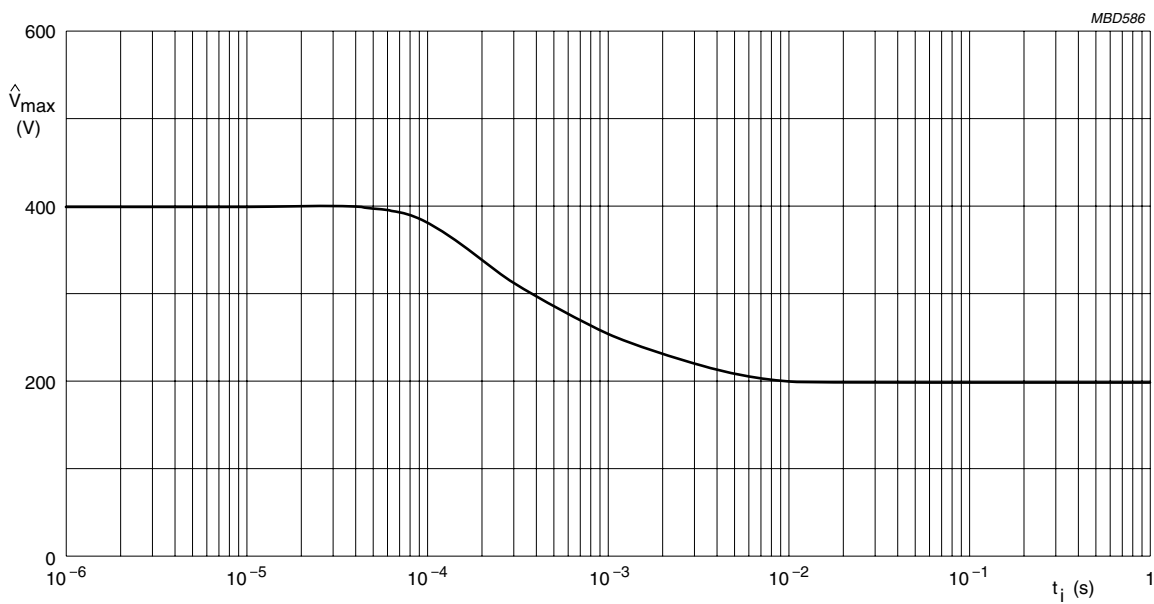

Fig. 13 Pulse on a regular basis; maximum permissible peak pulse voltage (\hat{V}_{max}) as a function of pulse duration (t_i).
However, maximum peak pulse voltages as indicated in Fig. 13, should not be exceeded.
- \hat{V}_i must be lower than the value of \hat{V}_{\max} given in Fig. 13 for the applicable value of t_i .
\hat{V}_i	applied peak pulse voltage (Figs 13 and 14)
$$\hat{P}_{max} = 2 \text{ W and Fig. 13 gives } \hat{V}_{max} = 400 \text{ V.}$$
The dashed curve of Fig. 11 shows that at $t_i = 10^{-5} \text{ s}$, the permissible $\hat{P}_{max} = 10 \text{ W}$ and Fig. 13 shows a permissible \hat{V}_{max} of 400 V, so this resistor may be used.